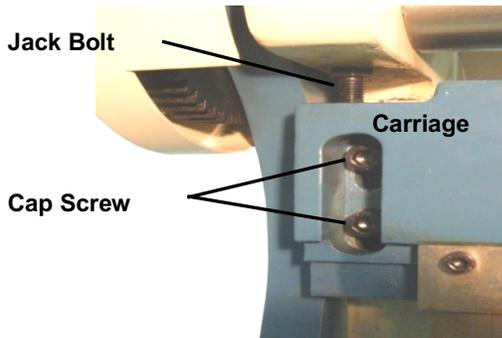

Figure 18-2
6. If you notice a gap at one end of the brake, loosen the (2) carriage lock cap screws at that end (fig. 18-2), and adjust the jack bolt until the brake blades just touch the pipe.